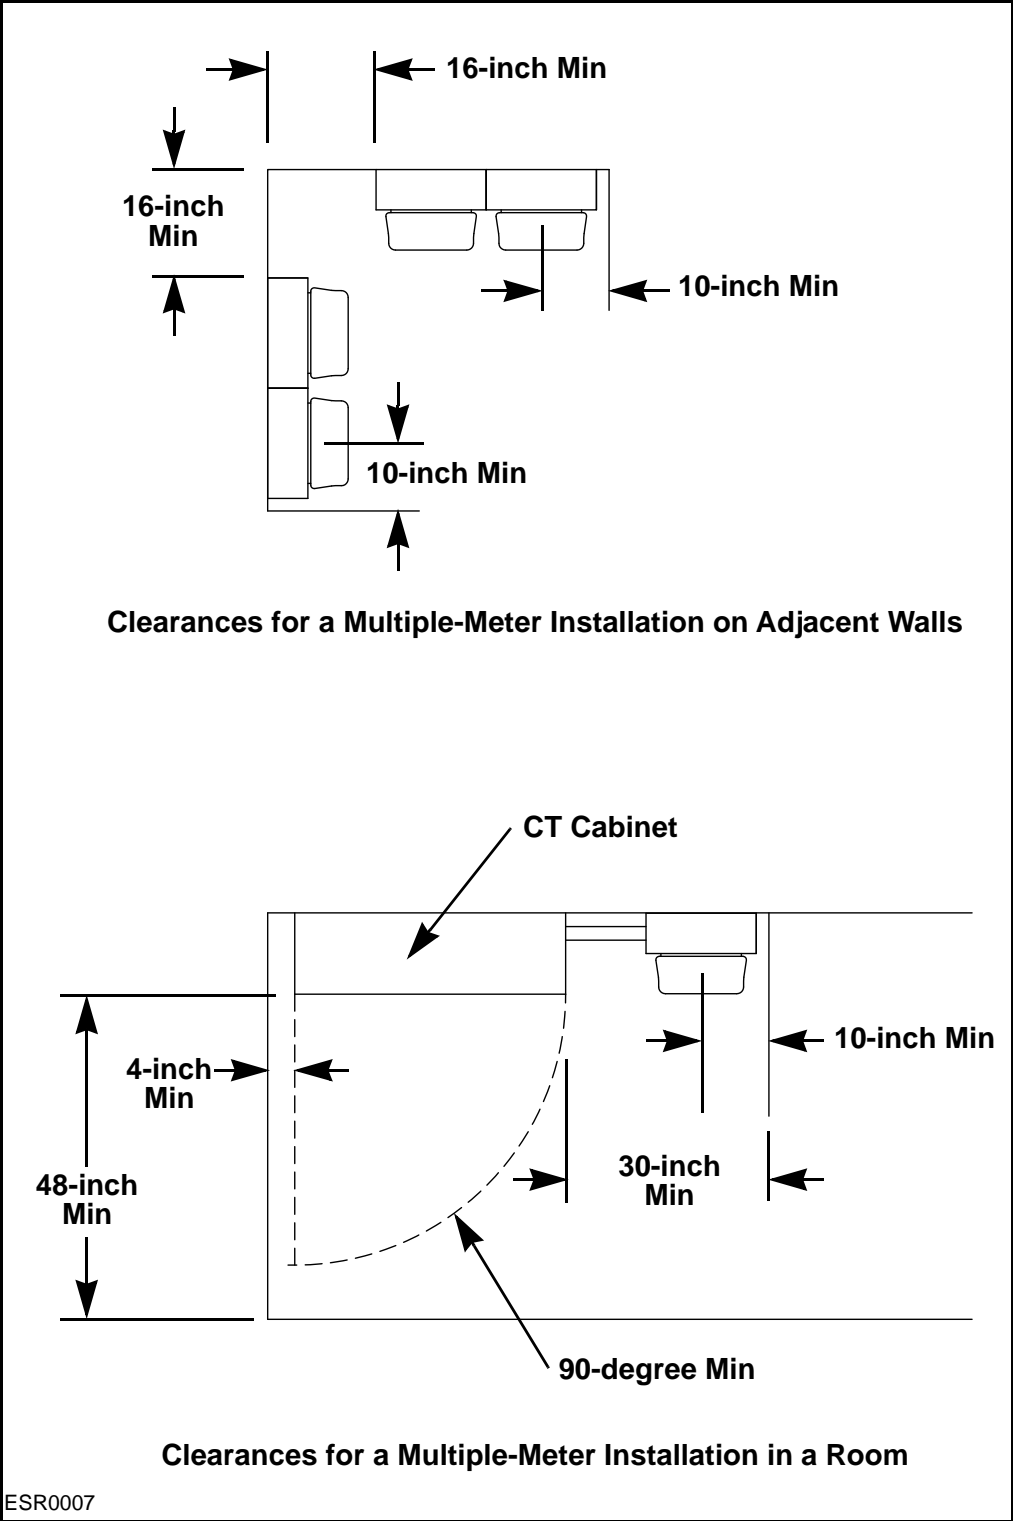

Figure 5-3: Meter Clearances for Multiple-Meter Installations
- The minimum horizontal clearance from the center of the meter to a wall or obstruction is 10 inches. See **Figure 5-3**.
- The minimum horizontal clearance from the side of a CT cabinet to a wall or obstructions is 30 inches. See **Figure 5-3**.
- A minimum 90-degree clear open space is required when the CT cabinet door is open. See **Figure 5-3**.
- When there are multiple meters on adjacent walls, a 16-inch minimum horizontal clearance is required from the side of the meter box to a wall or obstruction. See **Figure 5-3**.
- The minimum horizontal clearance from the open door of a CT cabinet to a wall or obstruction is 4 inches. See **Figure 5-3**.